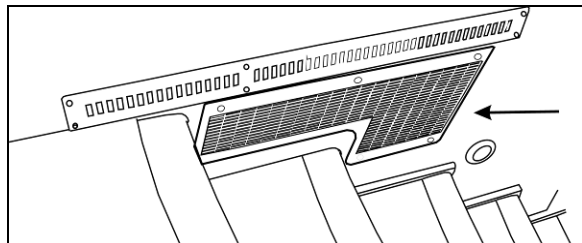

FIGURE 16: R.H CONSOLE AIR FILTER ACCESS GRILL (COACHES) 18505
The driver's HVAC unit is located behind the dashboard's R.H. side panel. To gain access to the A/C filters, unscrew the grille located at the top entrance step (Figure 16). Unscrew the plastic cover and slide out the recirculating air filter (FIGURE 17). Doing so will give you access to the fresh air filter (see item 18, Figure 72).